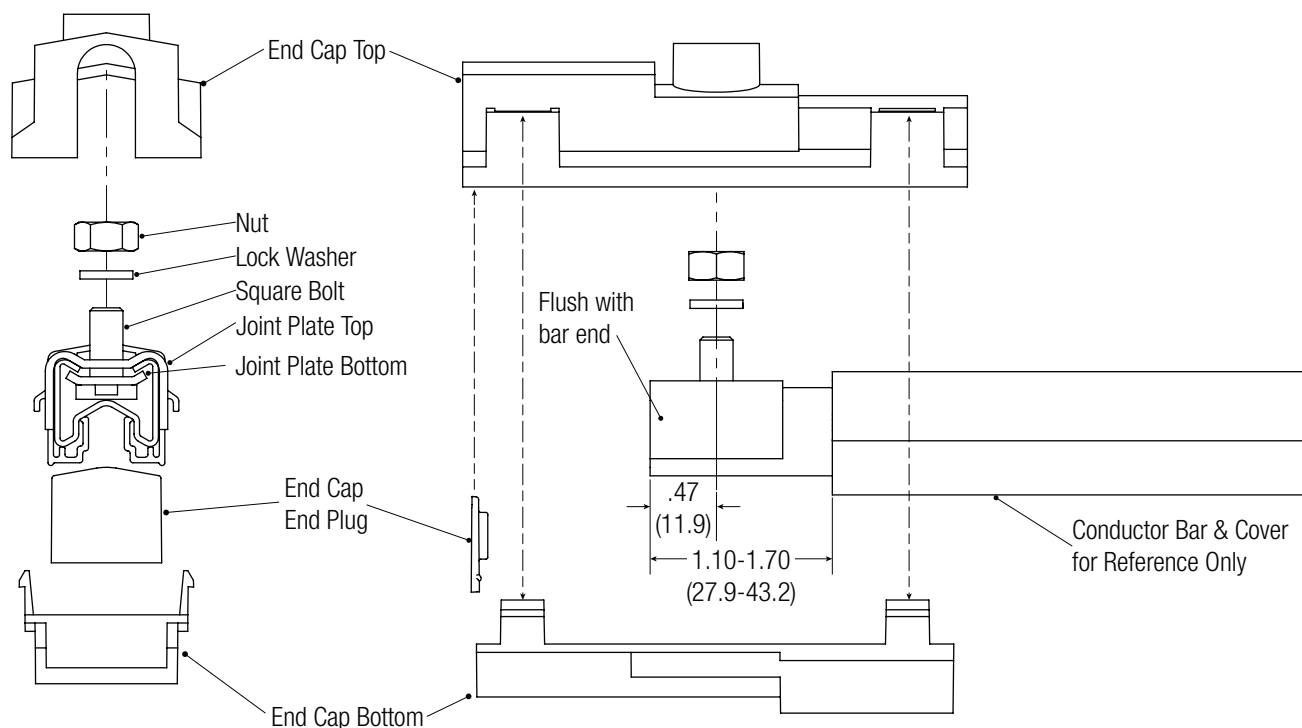

Figure: 11-1
11.0.1 Install end caps onto galvanized steel and copper bars see *Figure 11-1*.